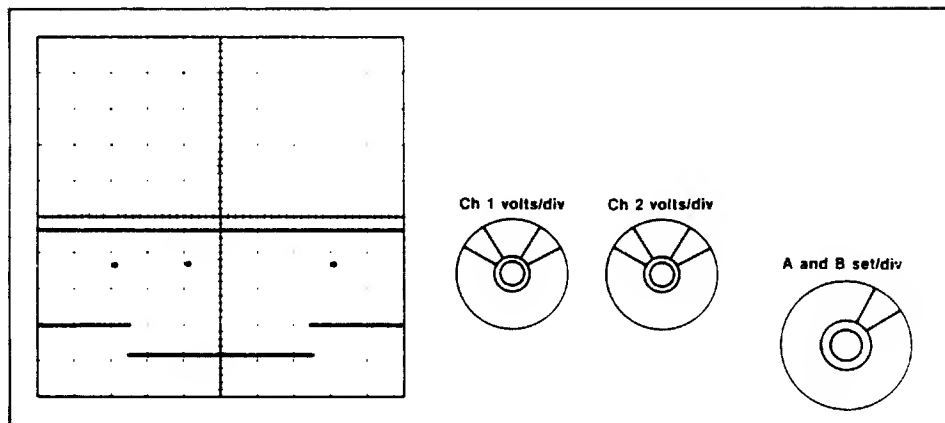

FIGURE 8-56. TRACK 0 SENSOR SIGNAL
8.3.5.7 Observe the square-wave signal on the oscilloscope for these tolerances (Figure 8-56):